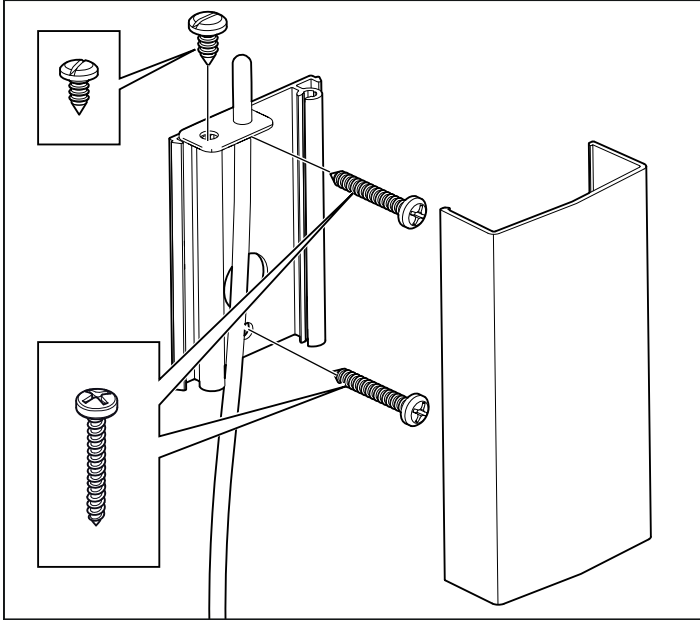
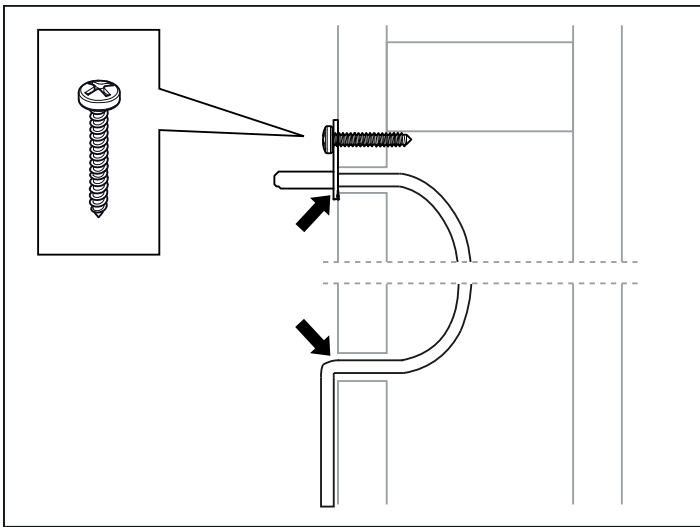

Figure 9: Installing the sensor
Figure 10: Seal any holes
8. Install the sensor on the wall, see Figure 9. The thermistor wire may also be passed through the wall. Seal any holes in the wall behind the sensor, see Figure 10. The thermistor wire may be extended outside the sauna using low voltage wire (2-lead).